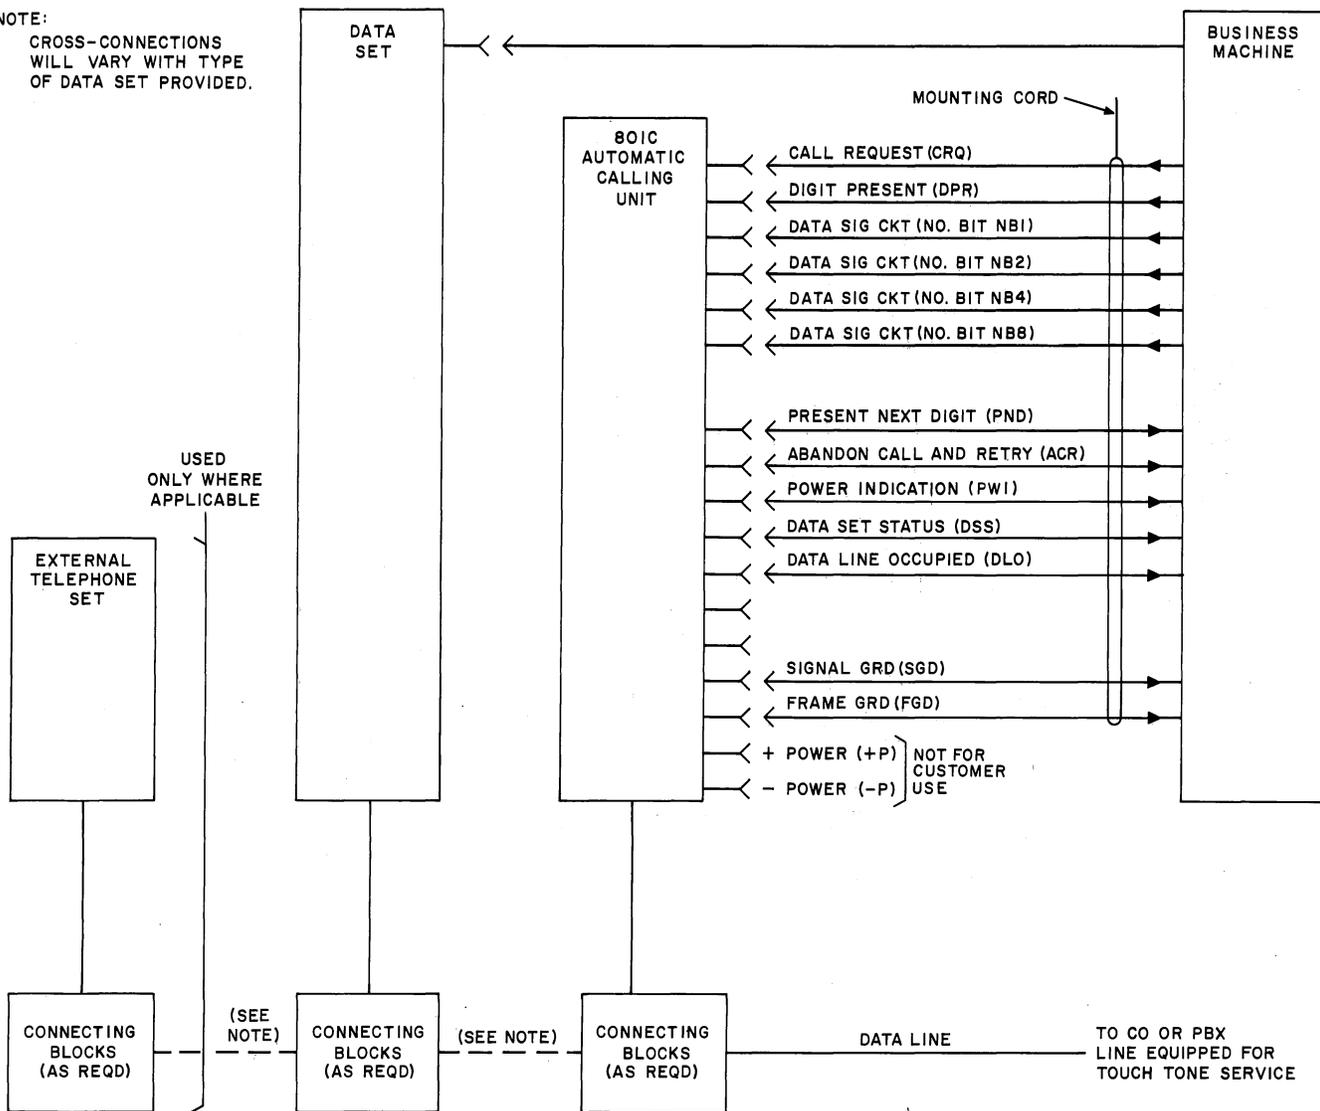

Fig. 2—Data Auxiliary Sets 801C1 and 801C2—Block Diagram
- 2.02** A block diagram of the connections made to the ACU is shown in Fig. 2.